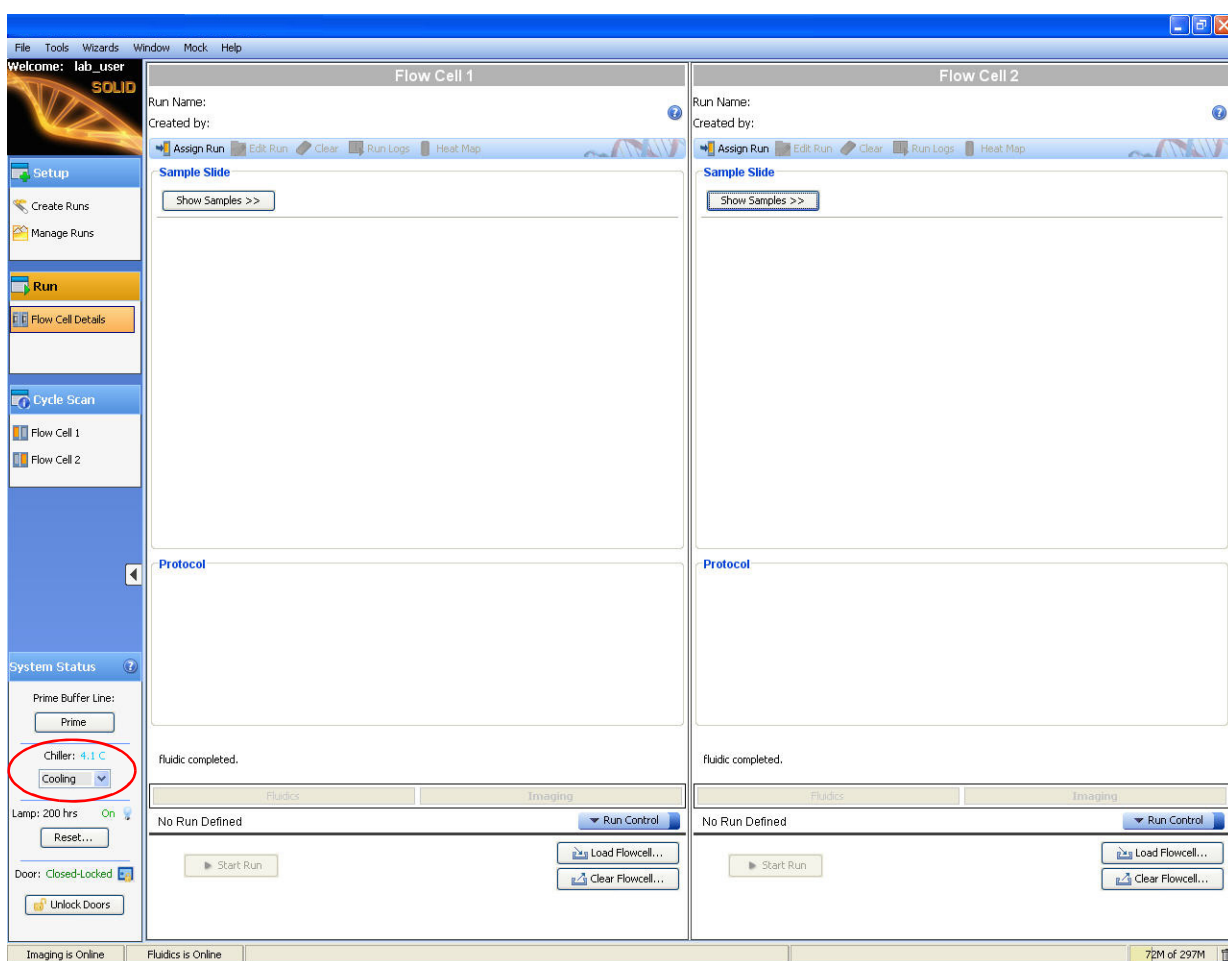

Figure 13 Select **Cooling** to cool the flowcell.
3. Under the System Status menu, select **Cooling** from the Chiller drop-down menu (Figure 13).
⚠ **IMPORTANT!** Ensure that the chiller block temperature is below 10 °C before proceeding with reagent strip installation. Under the System Status menu, select **Cooling** from the Chiller drop-down menu (Figure 13 on page 20).